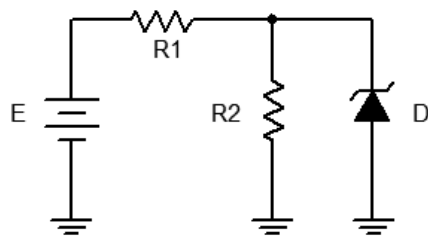

Figure 2
4. Consider the circuit of Figure 2 using $R1 = 2.2 \text{ k}\Omega$ and $R2 = 4.7 \text{ k}\Omega$. In general, to analyze circuits like this, first assume that the Zener is out of the circuit and then compute the voltage across $R2$ using the voltage divider rule. If the resulting voltage is less than the Zener potential then the Zener is
5. Build the circuit of Figure 2 using $R1 = 2.2 \text{ k}\Omega$ and $R2 = 4.7 \text{ k}\Omega$. Set E to 2 volts. Compute the theoretical diode voltage and current, and record them in the first row of Table 2. Then measure the diode current and voltage and record in Table 2. Finally, compute and record the deviations.